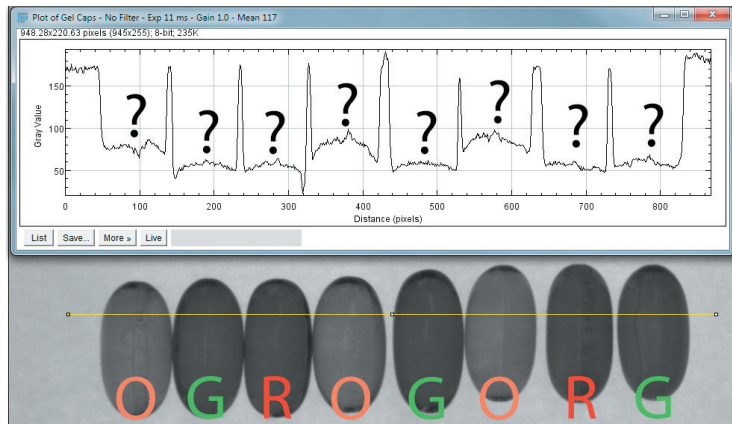

Figure 13 - Machine Vision System Unable to Discern the Differences in Color
As shown in Figure 13, the grayscale intensity differences between colored gel capsules are quite similar despite the differences in the color of the capsules. A yellow line is used to illustrate from where the pixel intensity graph generates each value. The dips in grayscale intensity correspond to each capsule. The peaks are representative of the gaps between each capsule. The intensity values for each capsule are quite similar, regardless of color, and fall within 50 digital number (DN) of one another. This indicates a poor contrast ratio and makes it very difficult for a machine vision system to discern one color from another.